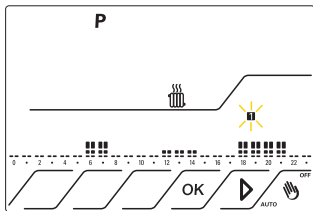

Fig.24
from 22.00 to 23.59: T1 Fig.24
6.4 Press OK to confirm. The day value  flashes as Fig.24.